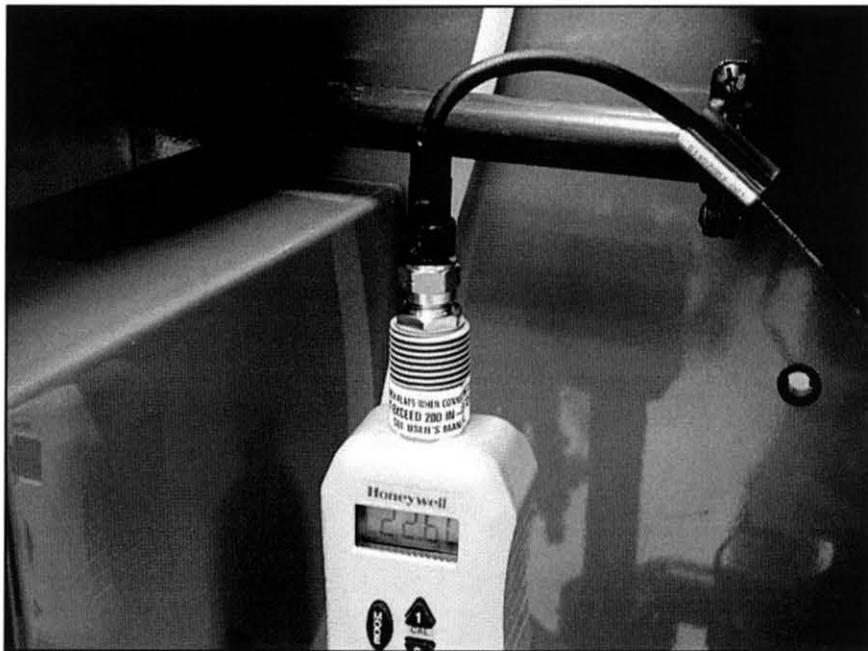

Figure 31. Output Cable Connected to the DL421 Module
- A. Make sure the output cable is connected to the module, as shown in figure 31.